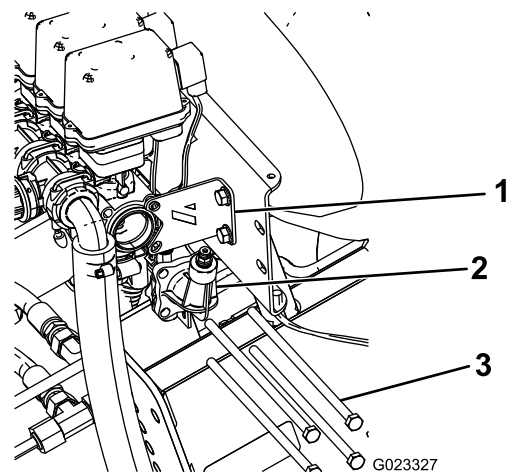

Figure 9
2. Remove the 4 long bolts securing the pressure-gauge port to the boom valves and discard them (Figure 9). Retain the flat washers and nuts.
3. Remove and retain the 2 bolts and nuts securing the stabilizing bracket to the valve assembly (Figure 9).